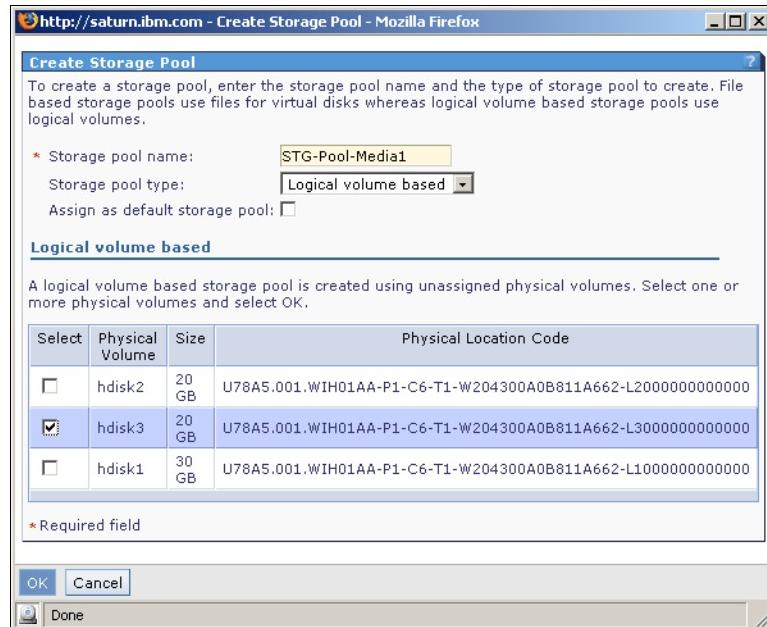

Figure 6-2 Media library - select the physical volume
- Specify the name of the storage pool and select the physical volumes that will be assigned to this storage pool. Figure 6-2 shows that we used the name STG-Pool-Media1. The type of the volume group is *logical volume base*. This allows to increase the space of the media library when needed. Physical volume hdsik3 is assigned to this pool. Click **OK**.